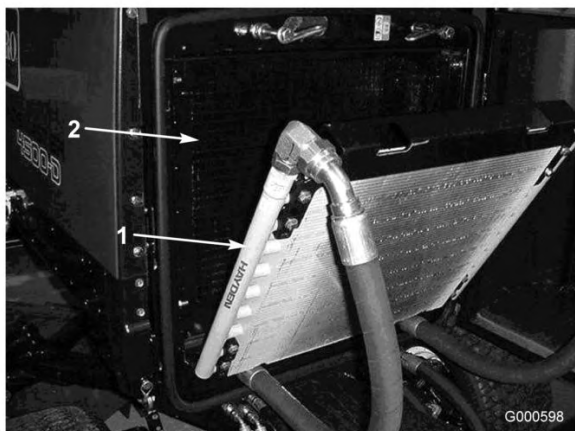

Figure 53
3. Pivot the oil cooler rearward. Clean both sides of the oil cooler and radiator area (Figure 53) thoroughly